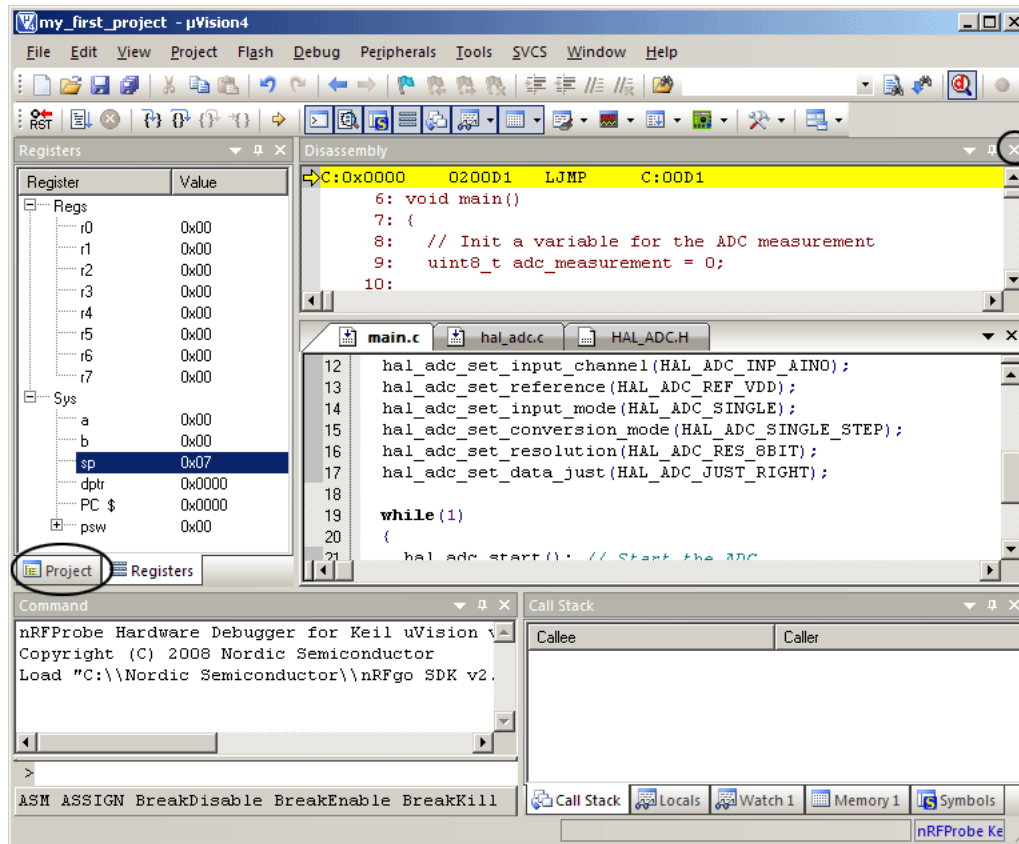

Figure 33. Default debug window
3. To simplify the project window, you can exit the disassembly window for the purposes of this application note. (See the encircled area in Figure 33. on page 29 for how to exit the window. You can open it again later from the **View** menu at the top.) Also select the “Project” tab which is shown on Figure 33. on page 29 to see all project files.